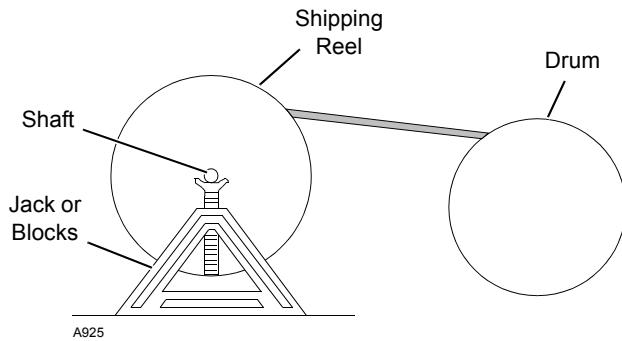

FIGURE 4-33
- a. Mount the wire rope shipping reel on a shaft supported at both ends by jacks or blocks as shown in Figure 4-33.